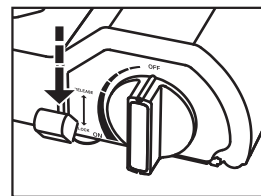

Fig. 6
- Press down the lock lever knob until it is in the LOCK position (Fig. 6) and close the bomb cover.